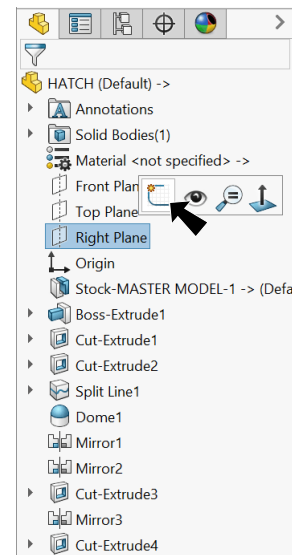

Fig. 67
Step 1. Click **Right Plane**  in the Feature Manager and click **Sketch**  on the context toolbar, Fig. 67.